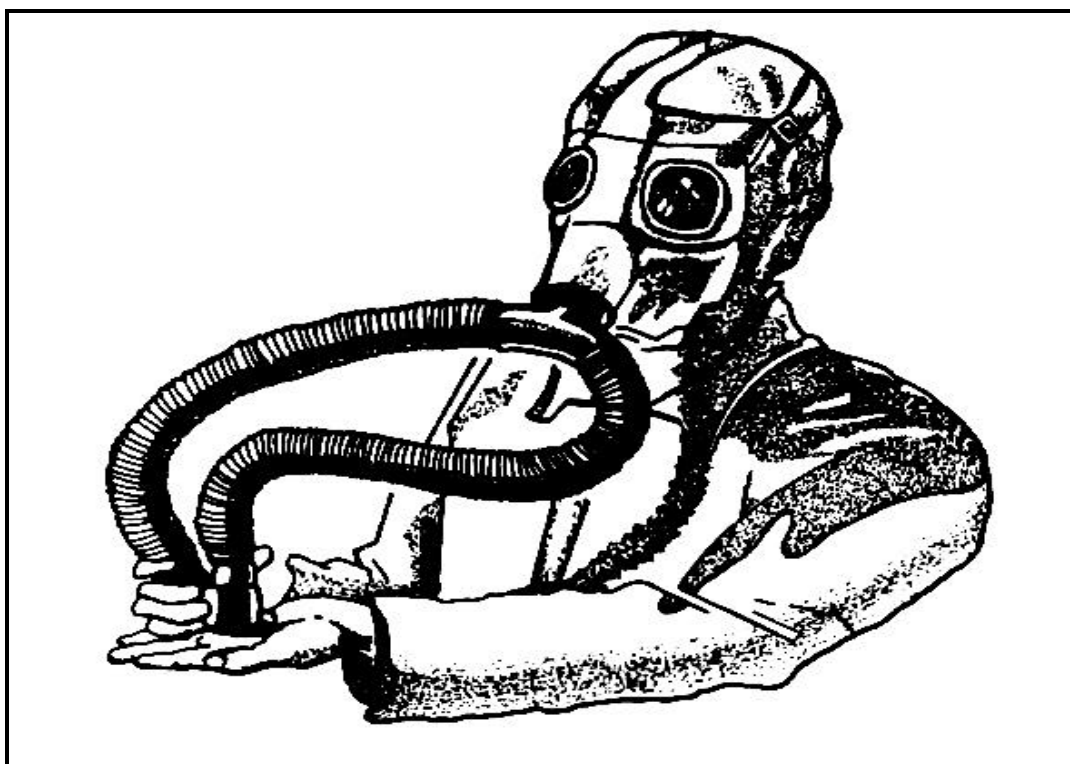

Figure 12-14. Testing a respirator
- Test respirators before each use. To test a respirator, cut off the air supply to the mask for a few seconds by covering the end with the palm of the hand as shown in Figure 12-14, page 12-15. If there are no leaks and the straps have been adjusted properly, the face piece will collapse against the face.